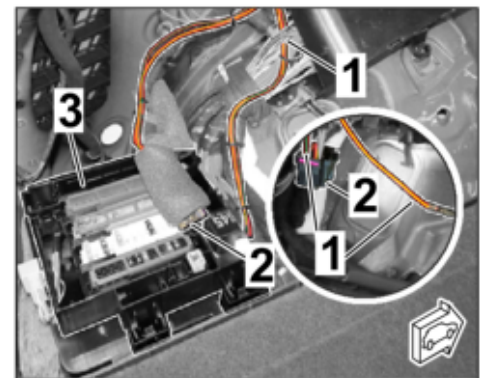

Figure 11
- 2.3.5 Route RD/GN and RD/YE lines to connector B (preparation). ( ⇒ *Figure 11*).
Release connector B, connect lines RD/GN and RD/YE as described in Step 2.3.2 ( ⇒ *Figure 11 -Magnifier-*).